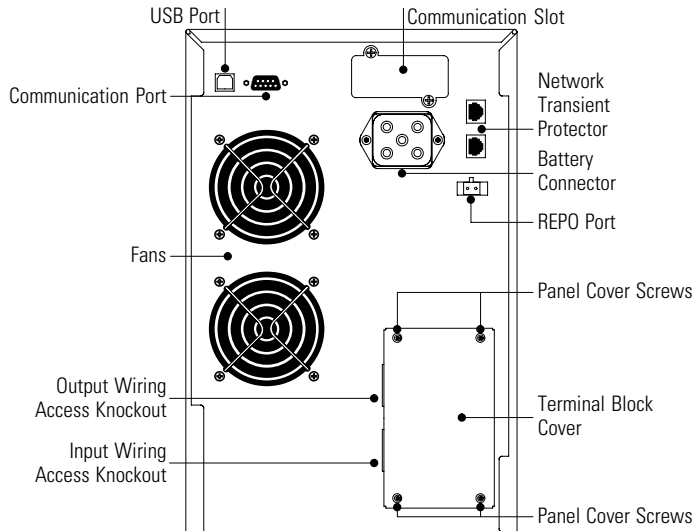

Figure 2. 3000 VA, 120V Hardwired Rear Panel
6. Remove the terminal block cover and the wiring knockouts (see Figure 2). Retain the terminal block cover.